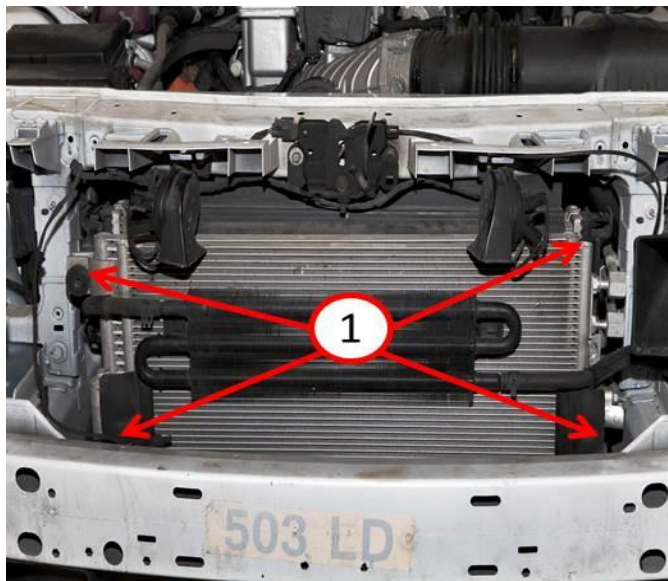

Fig. 11 Bolts securing the AC Condensor
22. Remove the 4 bolts (1) for the A/C condenser to the radiator and the Low Temperature Radiator (LTR) cooling system cooler if equipped with supercharger (Fig. 11). Secure the A/C condenser and LTR as an assembly to prevent stress on the lines/hoses.
37. Install the 4 bolts securing the LTR cooler if equipped with supercharger and A/C condenser to the radiator. Tighten the bolts to 9 N·m (80 in. lbs.) (Fig. 11).